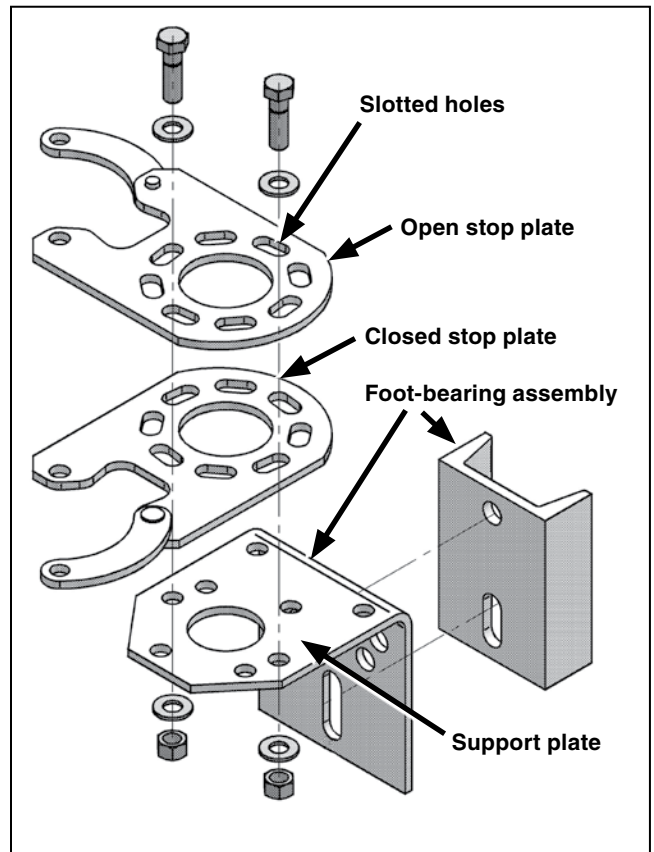

Figure 41. Stop plates and foot-bearing assembly—exploded view.
STEP 39. The stop plate holes are slotted to allow room for adjustment. Loosen the bolts that secure the adjustable stop plates to the foot-bearing support plate. See Figure 41. Place the switch in the fully open position. Adjust the open-position stop plate so the handle, when lowered, fits into the open-position slot. Mark on the support plate the location of the open-position stop plate.
- (a) Loosen the hardware securing the closed stop plate. See Figure 41 on page 25.
- (c) Lift the handle out of the way and rotate the stop plate an additional 15 degrees counterclockwise from the mark. Make sure the open stop plate lines up with the open stop plate mark made in Step 39. Tighten the stop plate hardware to 40 ft-lbs. See Figure 41 on page 25.